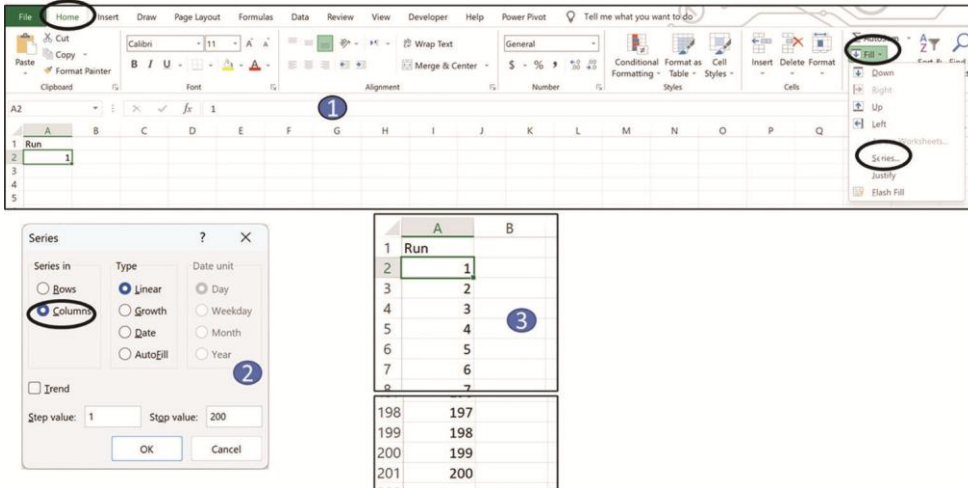

Figure 12.12: Creating the run numbers list in column A
The Simulation: You can find the sheet with the simulated values on the TAB named **Budget rand** on the Excel file of this chapter. We will prepare a sheet to run the simulation multiple times. On the sheet **Simulation setup**, we will run the simulation 200 times. In cell A1 we type the word **Run** to indicate run number. In cell A2 we type the number 1. Next, we use a menu to type the rest of the numbers from 1 to 200 on the cells A2:A201. See Figure 12.12: Go to **Home | Fill | Series (1)**. On the **Series** menu (2) we select columns and type 200 and ok. Now you will have the run numbers in column A.